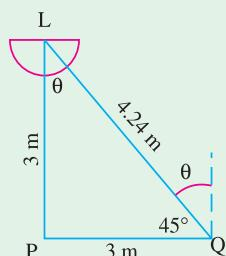

Fig. 49.14
**Solution.** With reference to Fig. 49.14